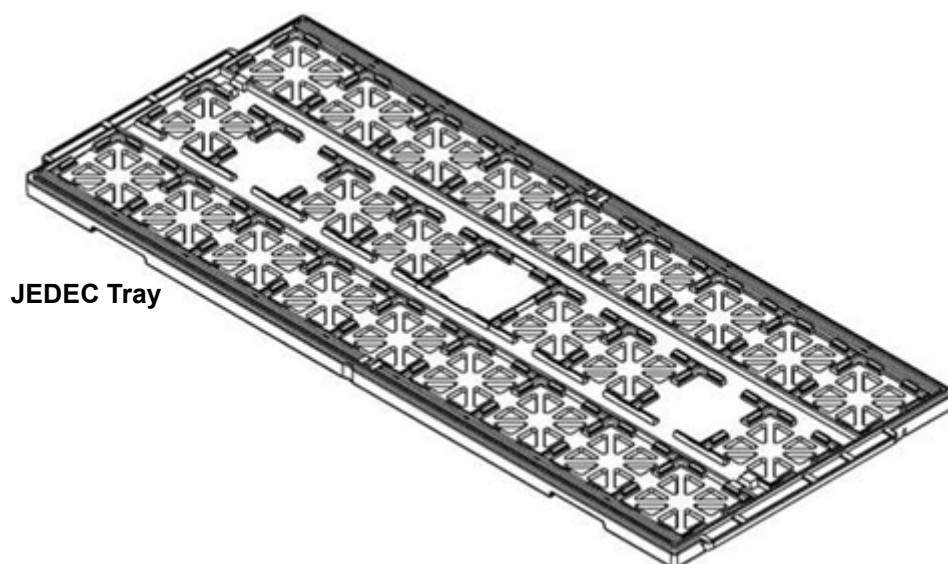

Figure 36. JEDEC Tray Example
- Freescale complies with standard JEDEC tray design configuration – See Figure 36.